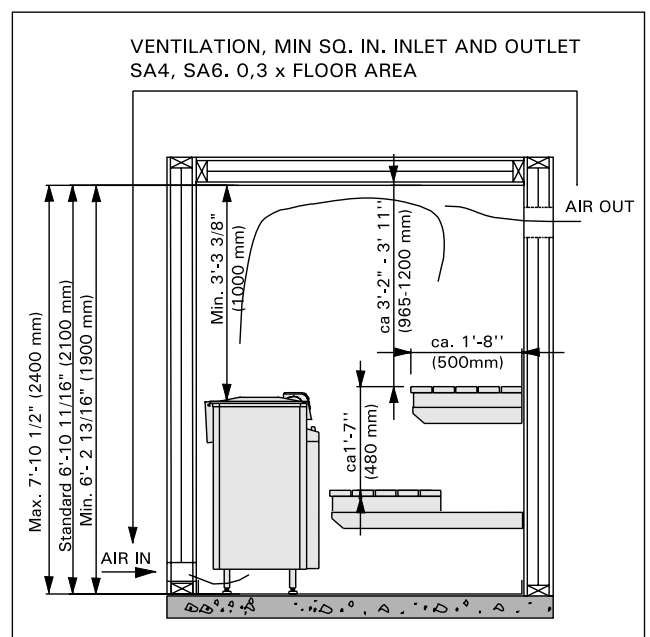

Figure 4. Sauna room
Outlet ventilation openings shall be located at the top of the wall, as close to the ceiling as possible, and shall comply with the minimum size requirements for inlet ventilations openings. See fig. 4.
**Table 1. Installation details of a SA heater. See fig. 4 and item 2.3. "Heater output"**
7. Is ceiling higher than in figure 4?